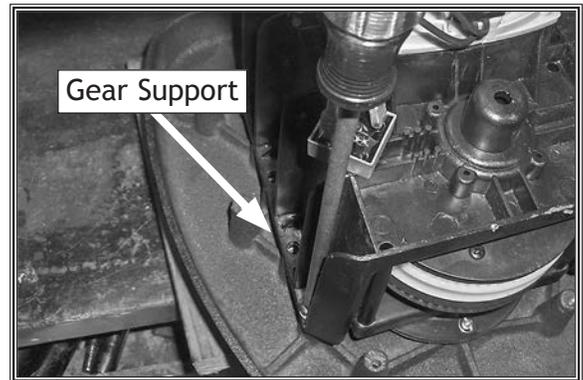

Figure 28. Installing gear support.
- 26. Install gear support (#66), as shown in **Figure 28**.